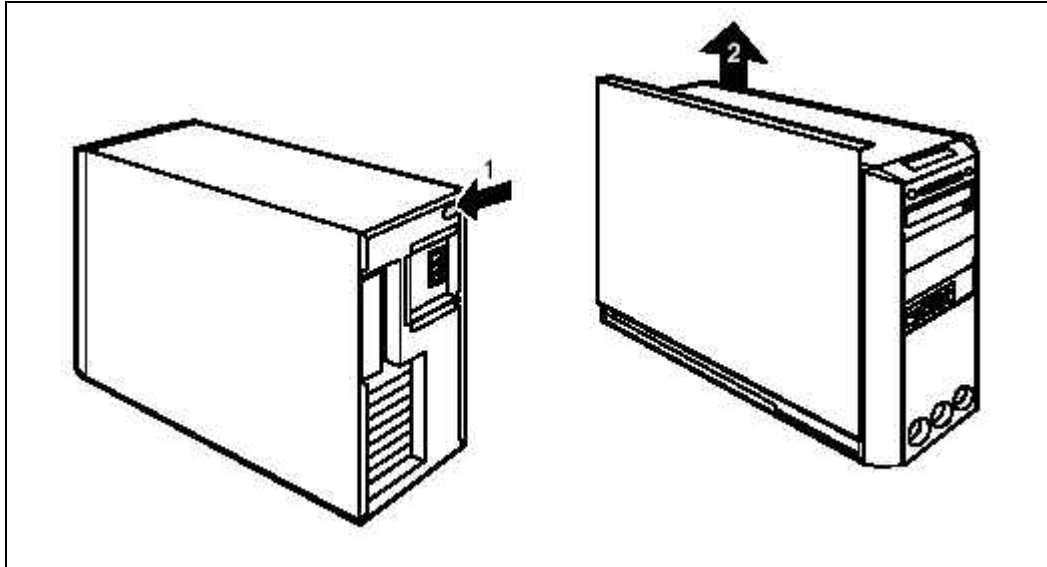

Fig. 47: Remove PC covers
4. Press the green unlocking button on the rear of the casing (1/Fig. 47 / p. 93).
5. Hold the green unlocking button down and slide the casing side cover upwards in the direction of the arrow (2/Fig. 47 / p. 93).